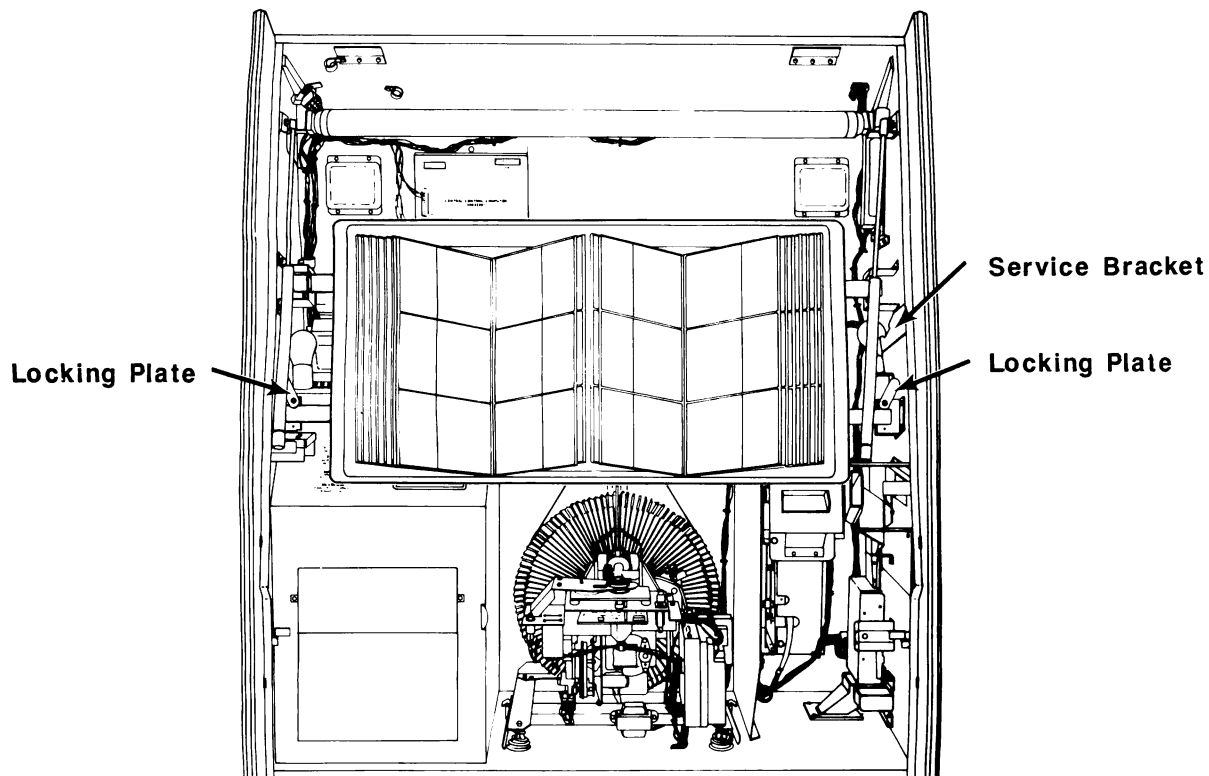

Figure 2-1. Raising The Title Rack
2. Rotate the two retaining latches on the ends of the title rack lower support bar (see *figure 2-1*) away from the support bar and lift the bottom of the title rack up and toward you with your left hand.